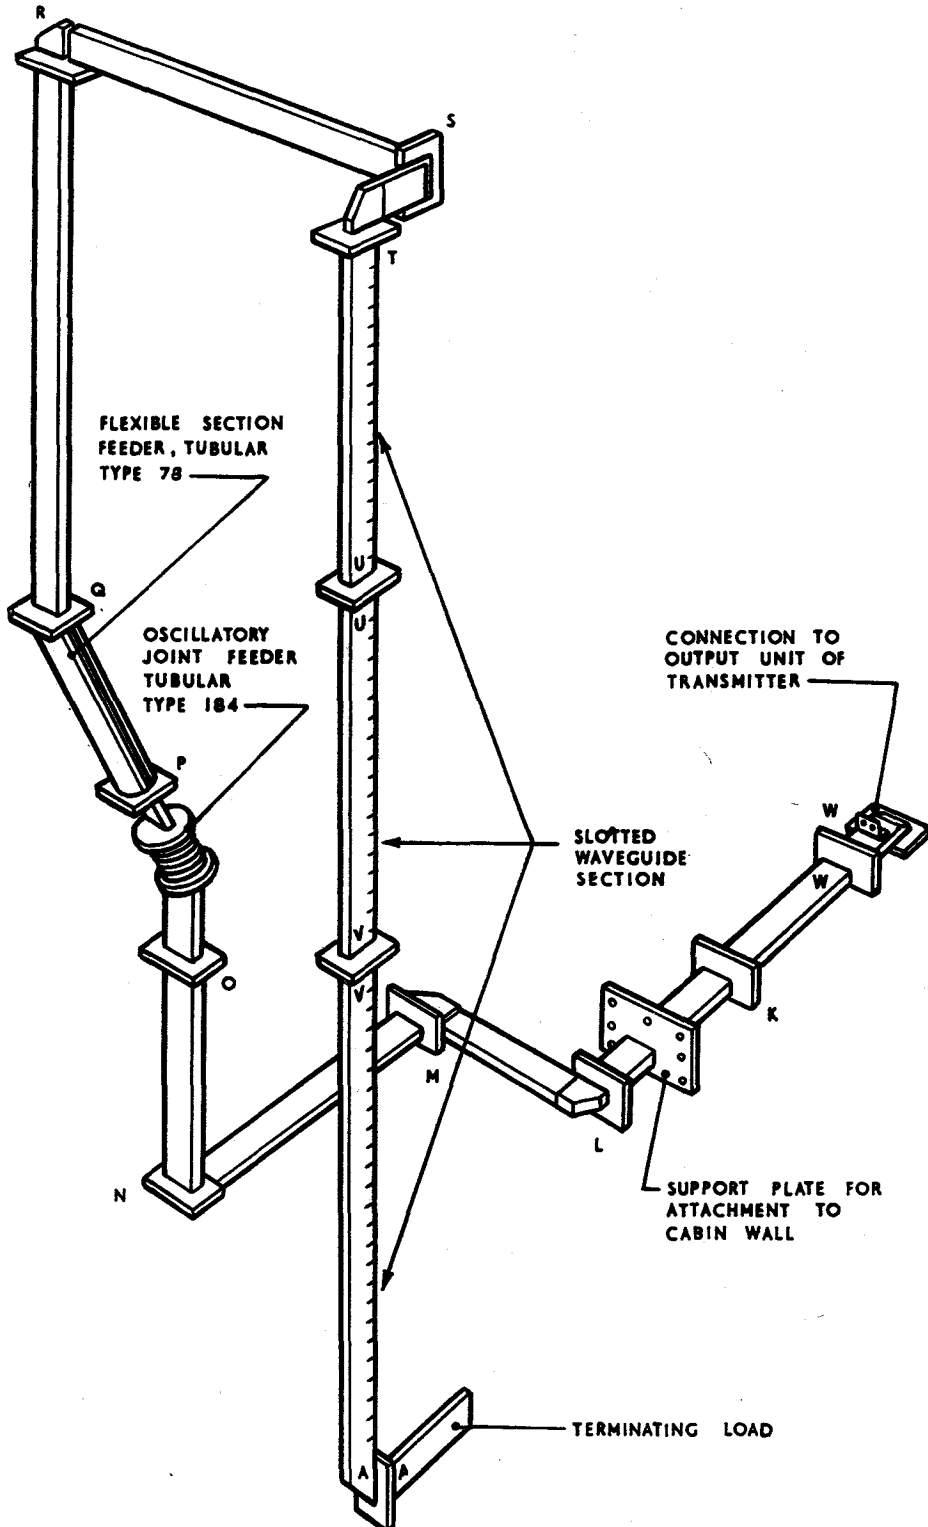

Fig. 32. Aerial kit Type 222 : assembled view
- (2) Pass the winch cable over the derrick pulley, behind the second pulley on the reflector, and attach the hook to the lifting bracket on the winch support frame.
- (3) Lift the reflector until it is horizontal and support it by an oil drum or box.
- (4) Fit the section of waveguide which passes down the centre line of the reflector. Each section of waveguide is lettered and the assembly is shown in fig. 32. Take care not to damage the tape covering the slots in the waveguide and ensure that gaskets Type 181 are fitted at the ends and between each section of slotted waveguide.
36. Complete the assembly and erection of the waveguide (fig. 32).